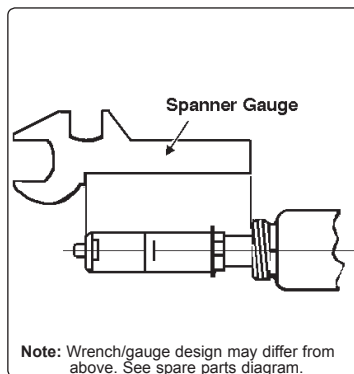

fig.4
- 5.2.2. Check the jaw stroke by using the supplied wrench/gauge as in figure 4, and adjust if necessary (there is a 5mm tolerance).